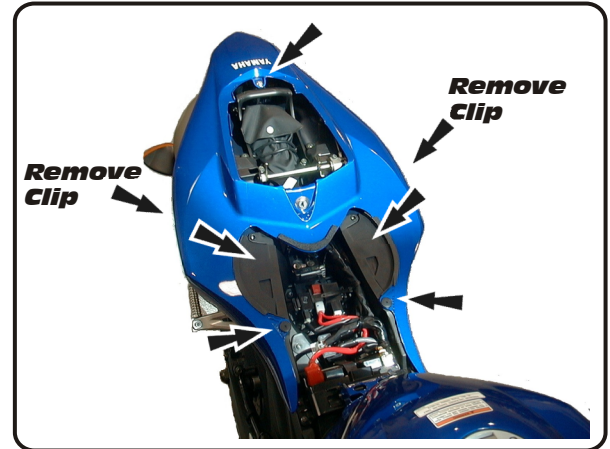

Fig. 1
- 2 Remove 2 rubber covers and rear cowling (See Fig. 1 for fastener locations). Disconnect the tail light electrical connector and the rear seat locking mechanism cable prior to removing rear cowling (See Fig. 2).